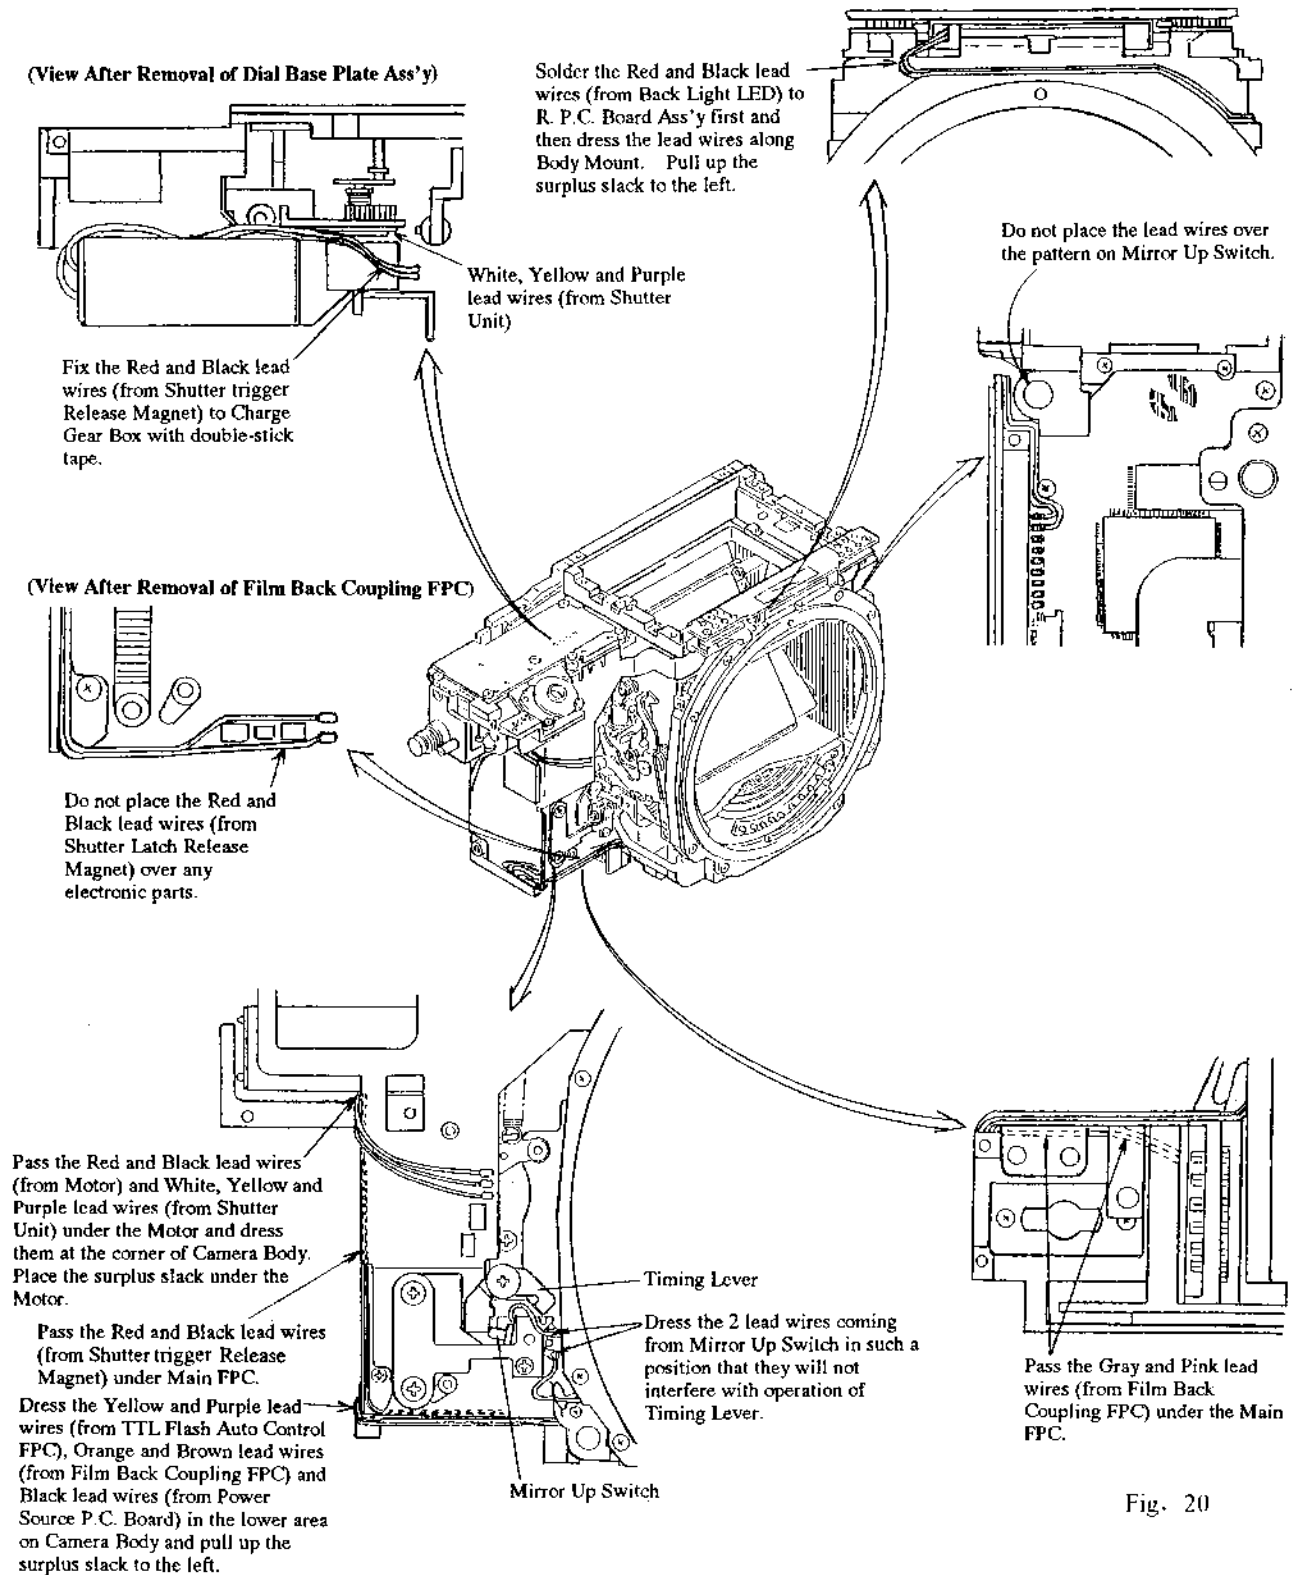

Fig. 20
- 1) Dress the lead wires on Camera Body in a way as shown in Fig. 20.